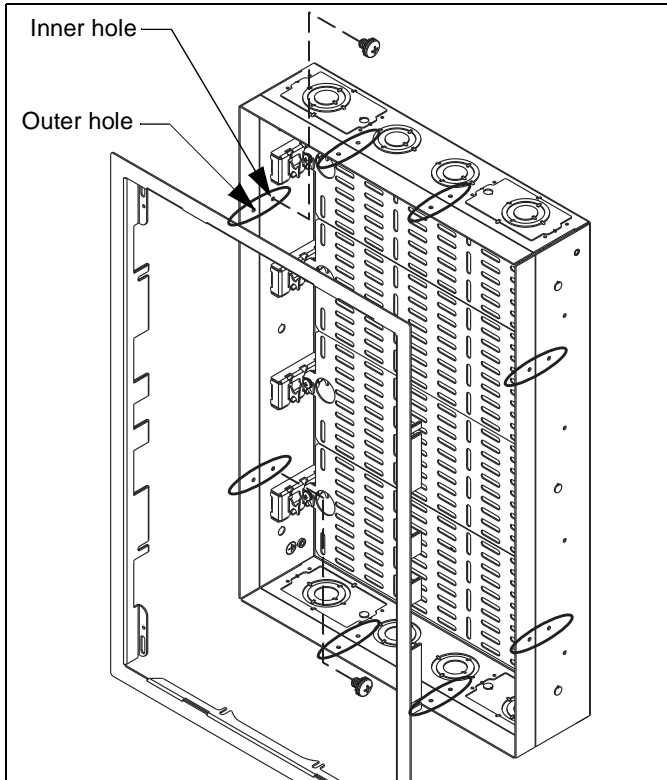

Figure 14
1. Loosely install eight 10-24 x 1/4" Phillips head screws with external teeth (M) into holes in PAC527 sides. (See Figure 14)
NOTE: If the outer edge of the PAC527 needs to be removed, use the inner hole for flange attachment. (See Figure 14)